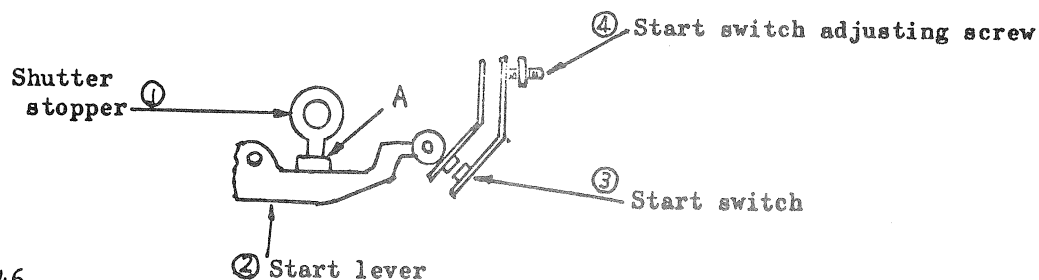

Fig. 46
- 11-1. Adjust in such a manner that the protruding portion of the shutter stopper shown in Fig. 46 (1) pushes up against part A of the start lever (Fig. 46 (2)). (Adjust as shown in the figure below.)